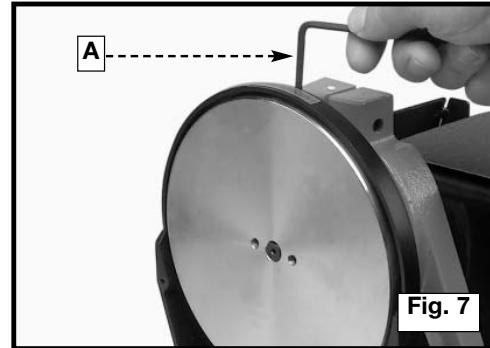

Fig. 7
- Use the supplied 1/8 in. hex wrench (A) Fig. 7 to tighten the set screw, located in the slot in the back of belt and pulley guard.